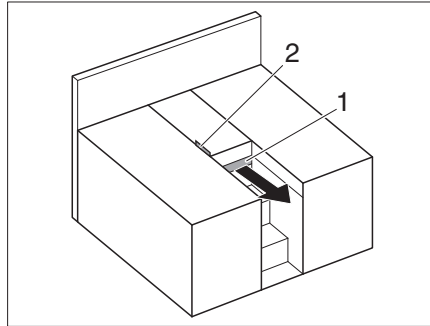

Fig. 179 Single beds
- Detach retaining strap (Fig. 179,2) and pull out extension (Fig. 179,1).
- Slide in the pull-out (Fig. 179,1) and attach the retaining strap (Fig. 179,2).